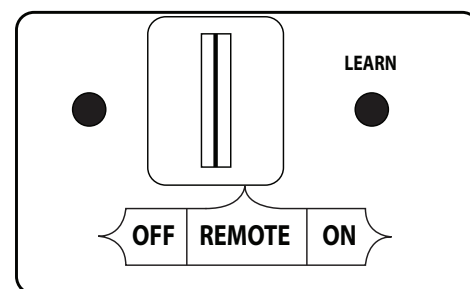

Fig. 31-2 Remote receiver (OFF for Manual Light)
1. Ensure the pilot is burning. Then locate the 3-position switch on the remote receiver (see Fig. 31-2), and slide the switch to the **OFF** position.